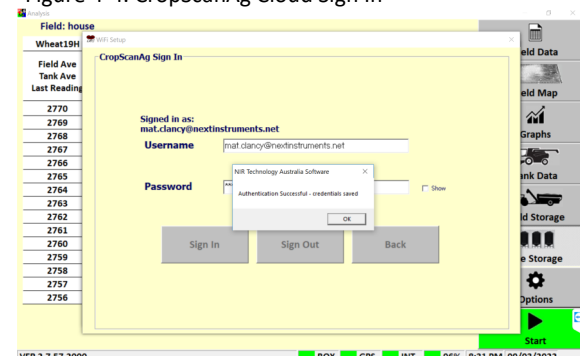

Figure 4-5. CropScanAg Cloud Authentication
- Press the Sign In button to link the CropScan Display to your CropScanAg Cloud server. Wait for a Authentication Successful notification as shown in figure 4.5. This can take a few minutes to finalise the connection.